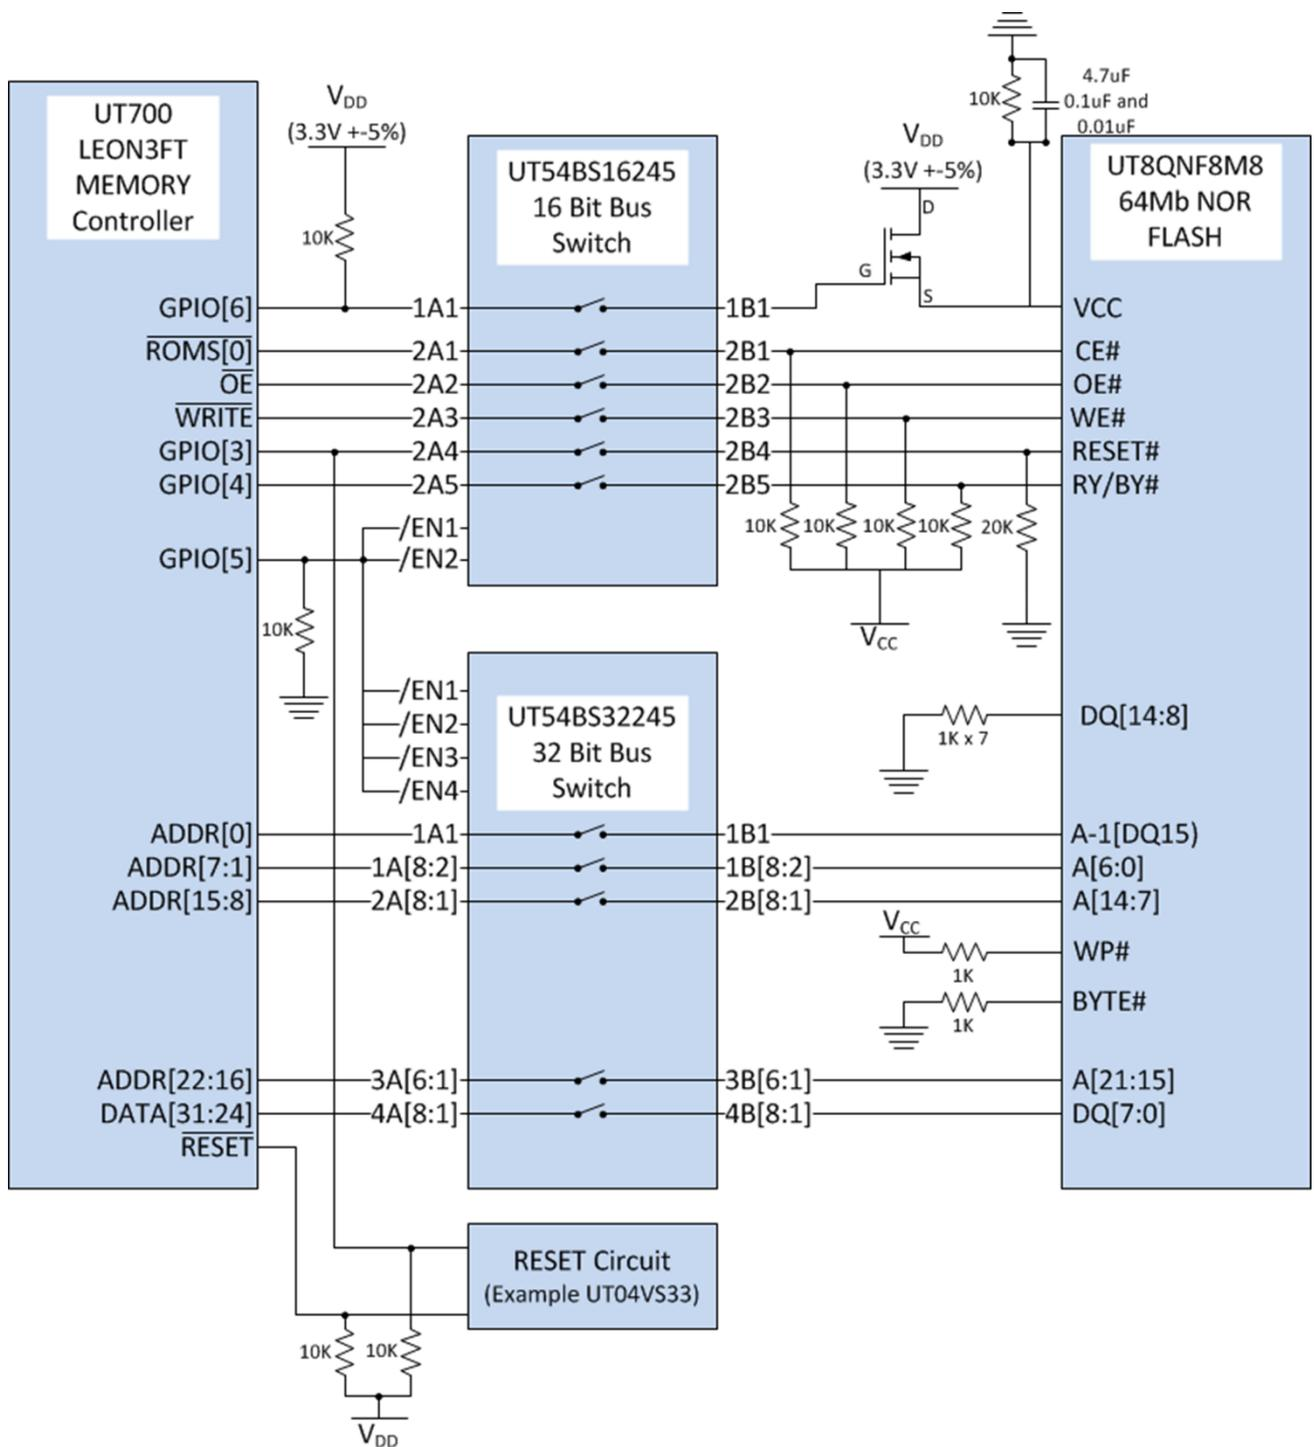

Figure 1. 50 krad(Si) TID Example Design
- Figure 1 50 krad(Si) TID Example Design 3
The example shown in Figure 1 implements a UT700 microprocessor interfacing to the NOR Flash using two Bus Switches. The additional device Cobham Semiconductor Voltage Supervisor, the UT04VS33, is an example of what is required to handle the power on reset condition.
The UT700 requires all of the signals shown in Figure 1 to access the NOR Flash connected to the appropriate Bus Switches. For the NOR Flash isolation example, additional signals in the form of GPIO are required to control when the processor requires access to the NOR Flash and when it enables the isolation feature.
Connect the Address, Data and control signals from the UT700 Microprocessor are connected to the appropriate signals on the Bus Switch device identified in the drawing Figure 1.
Addresses are connected directly from the Bus Switch to the address bus on the NOR Flash as shown in Figure 1.